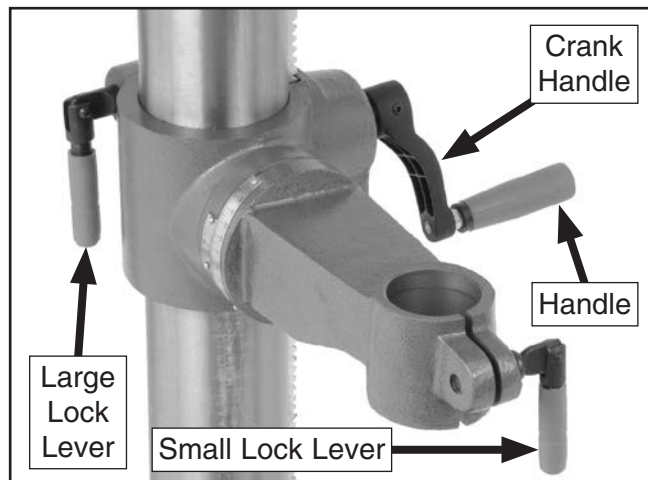

Figure 17. Handles and lock levers installed.
11. Thread small lock lever into front part of table support assembly approximately three turns, for now. The assembly should match what is shown in **Figure 17**.